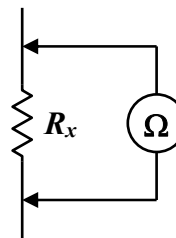

Figure 1.1
In the first method, the Fluke 45 DMM is used as an *ohmmeter* to directly measure unknown resistance R_x (*Figure 1.1*).
2. Using the DMM as an *ohmmeter* (**Figure 1.1**), measure the value of each resistor and record the results in **Table 1-1** of the **Data Sheet**. Record **all** digits displayed on the DMM (the DMM's in the lab should read 4 or 5 digits). **Make sure the values are within tolerance as given by the resistor's tolerance band.** If a resistor is out of tolerance, it might be the wrong resistor or it has broken down.